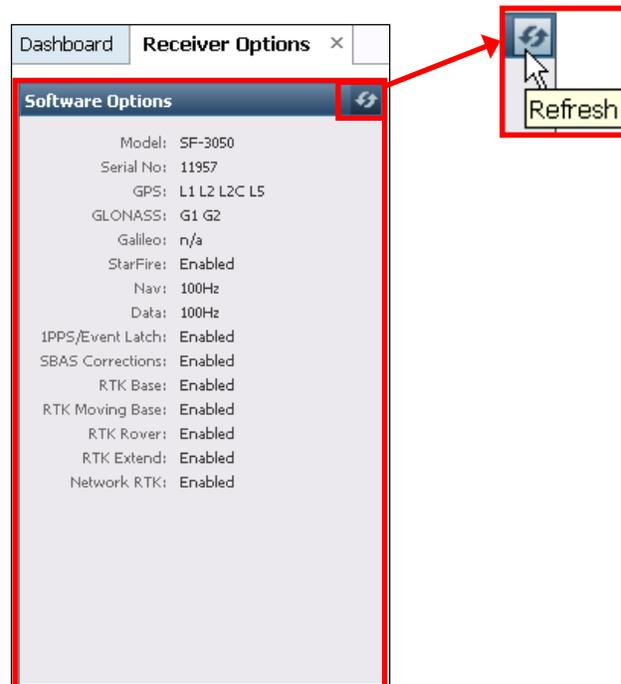

Figure 87: *Software Options Window*
8. Click  (refresh) on the Software Options window (see Figure 87) to display the uploaded software options.
6. To view all currently loaded software options, click  (refresh) on the *Software Options* window (see Figure 87).
- *RTK Extend Software Option*: A valid *RTK Extend Software Option* must be installed in the rover (see Figure 87)